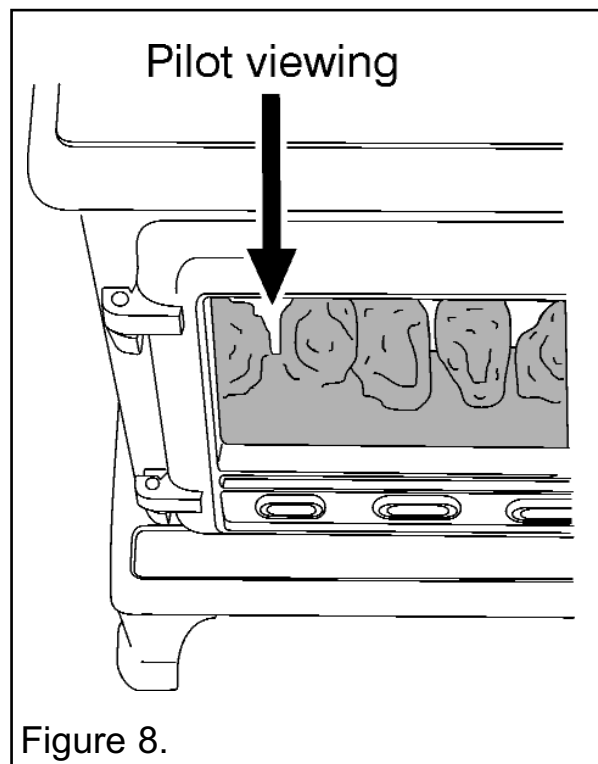

Figure 8.
- Turn the control knob clockwise to the 'Off' position. Repeat this operation until a flame appears at the pilot. The pilot can be seen by looking through the space in the left hand front of the fuel effect (See figure 8). There may be a delay before the pilot lights due to air being purged from the system. When a flame appears at the pilot keep the control knob depressed and hold the pilot ignition position for five seconds. When the control knob is released the pilot flame should remain lit.